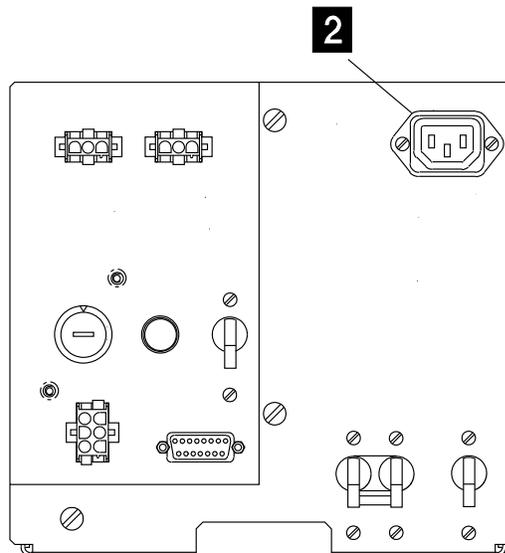
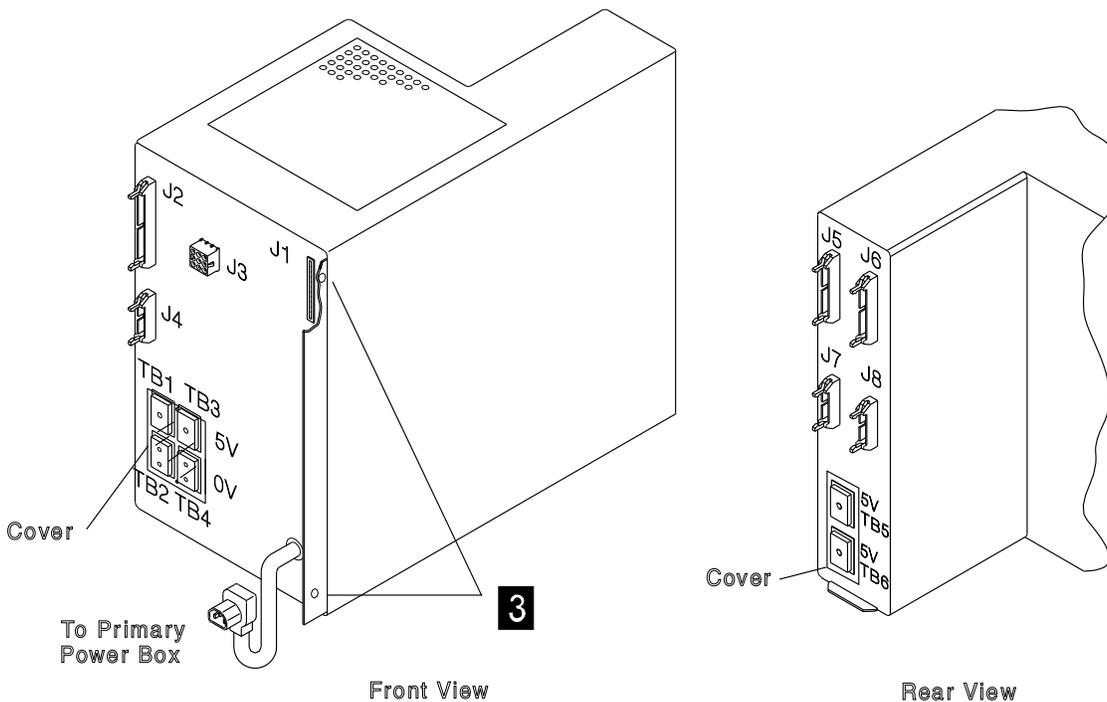

Figure 4-92. Primary Power Box
Figure 4-93. Power Supply 1
Refer to Figure 4-93 and to Figure 4-92 on page 4-68 and do the following:
4. Re-install the cover which protects TB1 to TB4 with two screws. Refer to Figure 4-93.
5. Re-install the cover which protects TB5 and TB6 with two screws. Refer to Figure 4-93.